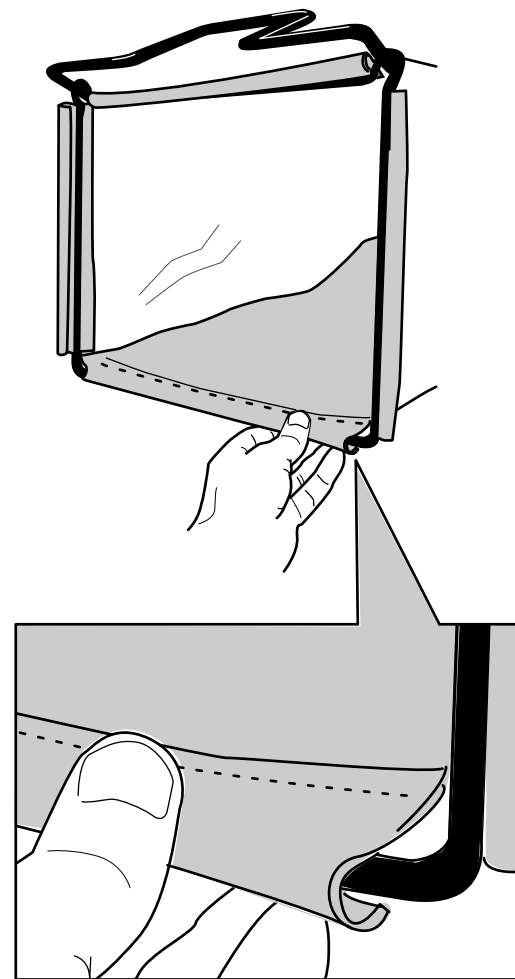

Figure 12
3. Hook the top and side channels of the bag onto the top and sides of the frame, respectively (Figure 12).
2. Hook the bottom channel of the bag onto the bottom of the frame (Figure 12).